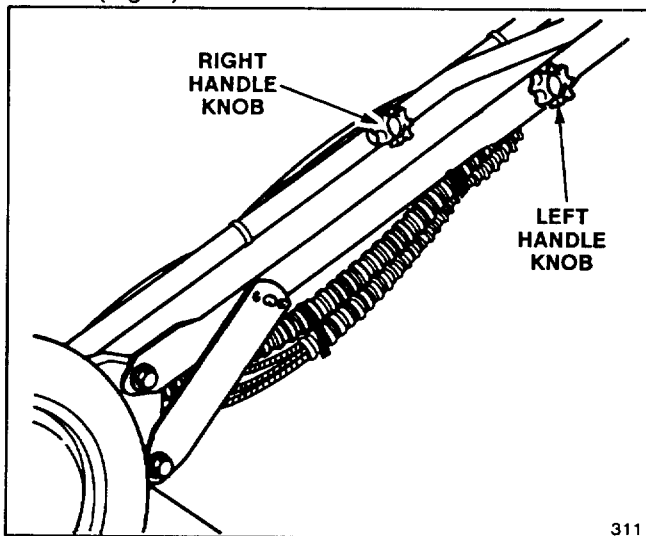
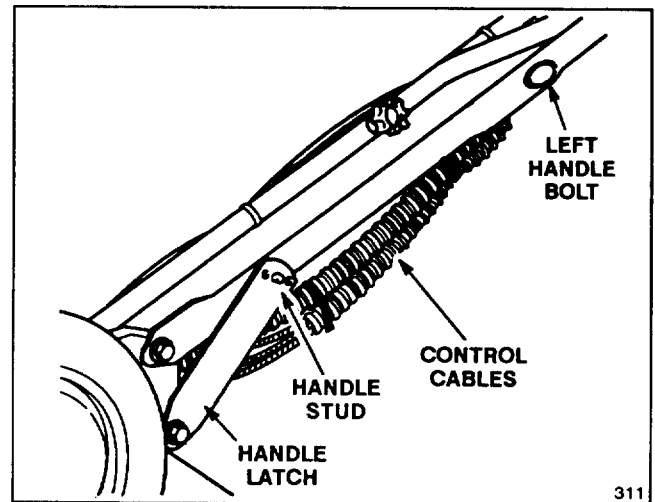

Figure 1
Figure 2
### INSTALL HANDLE (Fig. 1 & 2)
1. The left handle knob is shipped from the factory on the outside of the handle (Fig. 1). Remove the left knob and bolt. Reinstall knob and bolt on inside of handle (Fig. 2).
2. Align handle and tighten handle knobs. Move handle latches slightly outward so they will not be in the way when pivoting the handle backward into the operating position (Fig. 2).
4. Ensure control cables (Fig. 2) are to the rear and inside of handles. If handle height is not satisfactory, adjust by placing handle stud (Fig. 2) into a different hole. Tighten handle knobs.